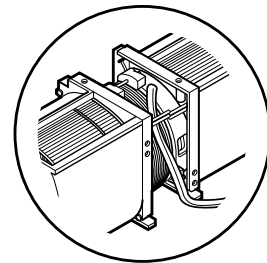

Figure 22
3. Reassemble the blower wire. See Figure 22.